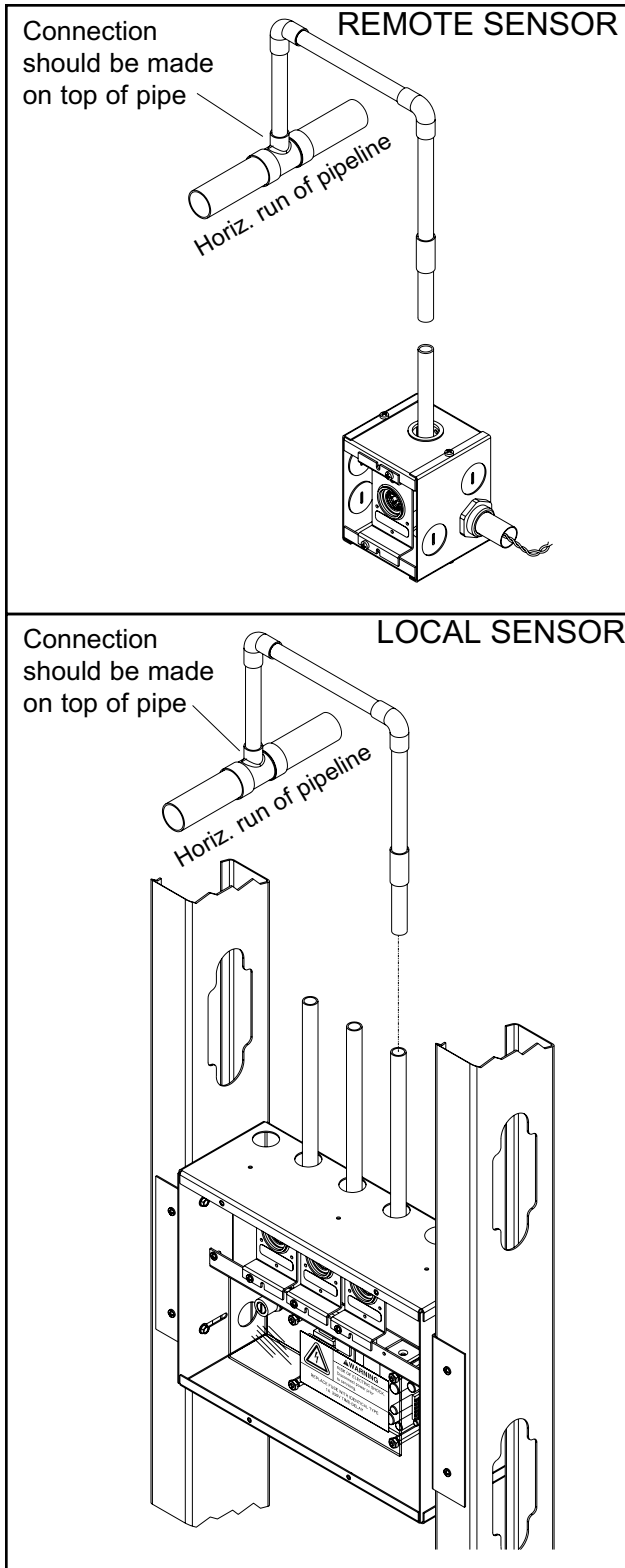

Figure 9: Sensor Pipeline Connection
1. Braze copper extension tubes from sensor rough-in to appropriate pressure/vacuum piping system drops as shown in Figure 9. Braze connections per procedures required by NFPA 99 or CAN/CSA-Z305.1. Use appropriate measures to prevent overheating and damage to internal components of sensor rough-in assemblies.